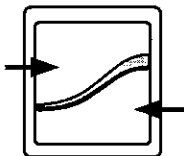

Fig. 3
3. Press and hold the UP and DOWN buttons until the LED turns amber then release buttons. (Fig. 3)